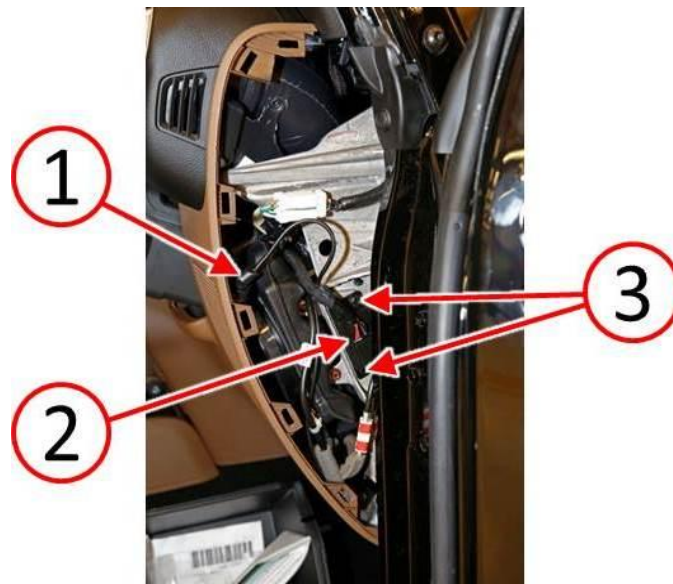

Fig. 3 Instrument Panel Right Side Alarm Sensor
4. Remove the alarm sensor microphone (1) from the reflector cone, located on the back side of the speaker grille (Fig. 3).
5. Disconnect the electrical connector (2) from the alarm sensor (Fig. 3).
6. Remove the two fasteners (3) securing the alarm sensor (Fig. 3).
8. Install the two fasteners (3) securing the alarm sensor (Fig. 3).
9. Connect the electrical connector (2) to the alarm sensor (Fig. 3).
10. Install the alarm sensor microphone (1) to the reflector cone, located on the back side of the speaker grille (Fig. 3).